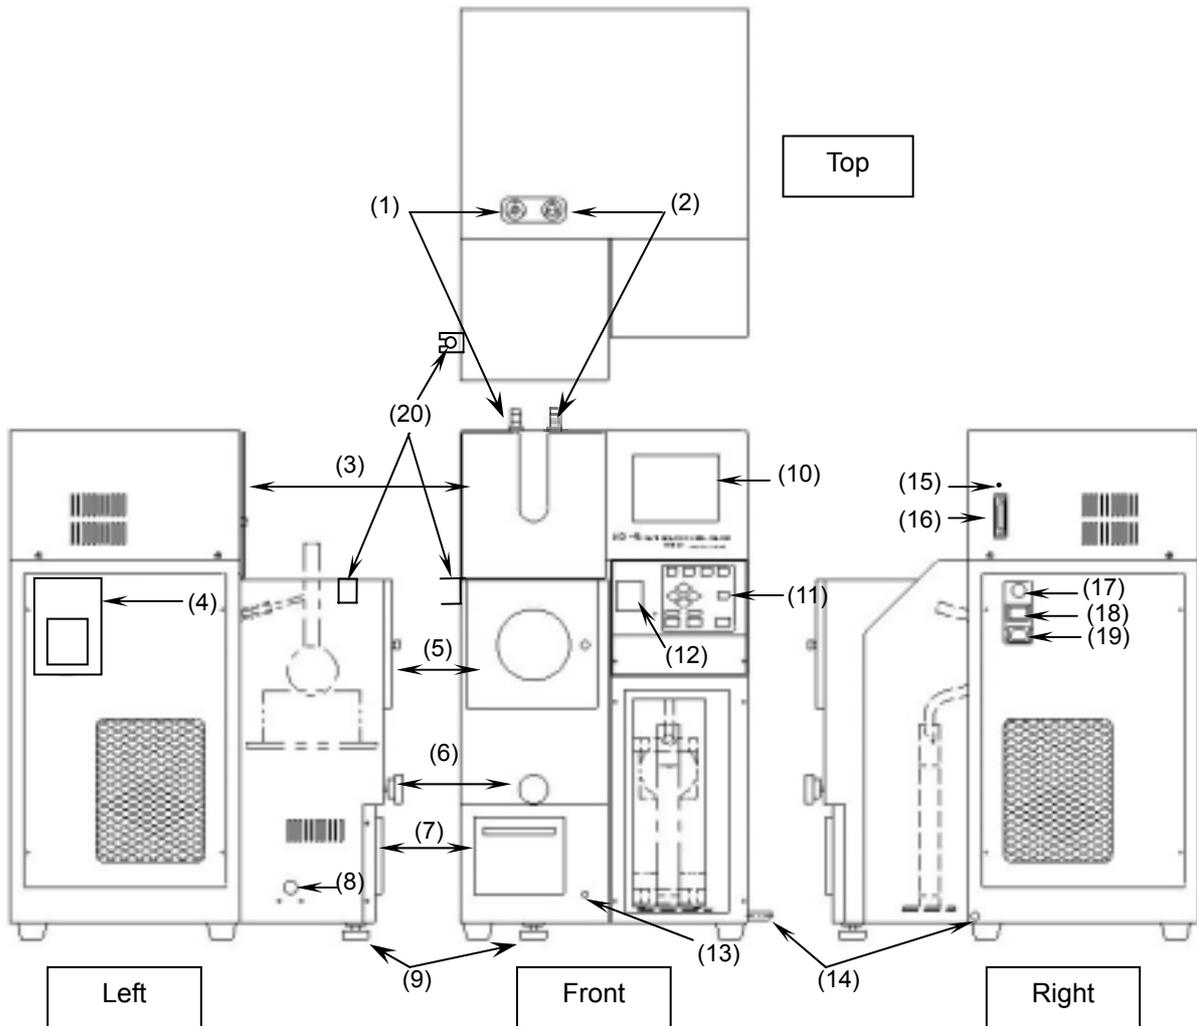

Fig. 1 Model AD-6
Connect nitrogen gas piping to inlet port (see Fig. 1 (8)).